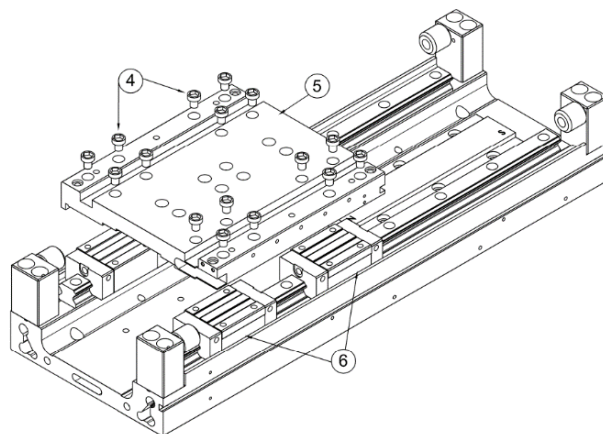

Figure 5.1-5 Forcer base installation
Use screws ④ to install the ⑤ forcer base onto the sliding block ⑥. (refer to Figure5.1-5)